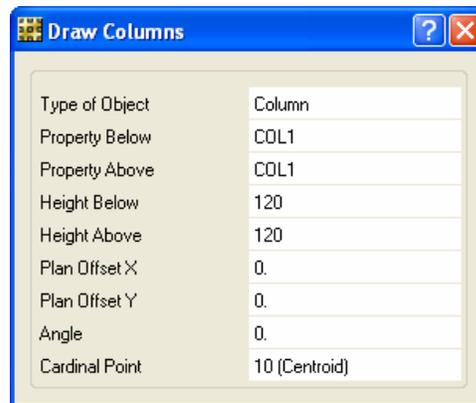

Figure 73 Draw Columns form
- A. Click the **Draw menu > Draw Columns** command to access the Draw Columns form shown in Figure 73.